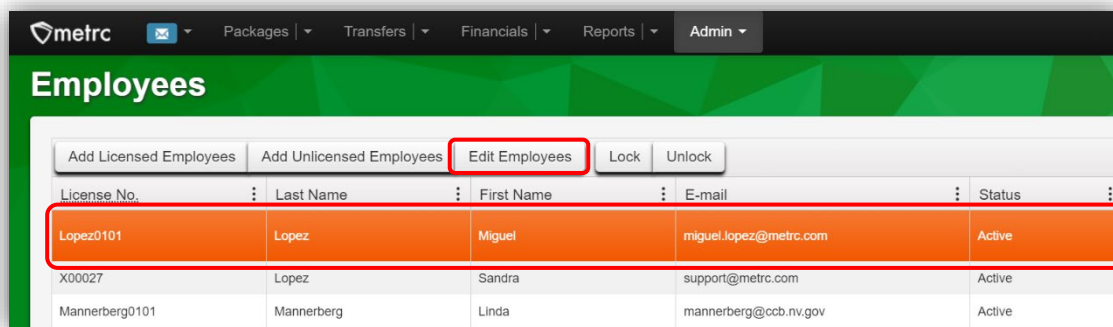

Figure 2: Edit Employees button in the Employees Grid
- Once on the Employees grid, highlight the Employee needing the permissions added and select the Edit Employees button – **see Figure 2.**